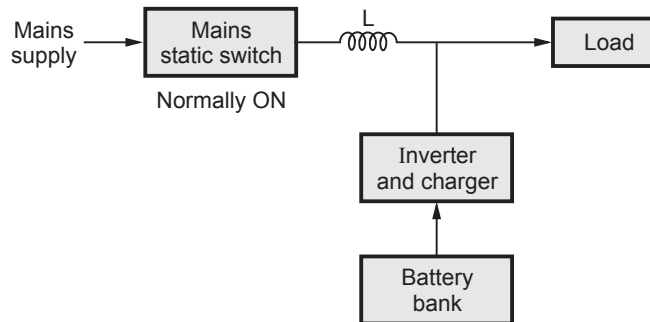

Fig. 6.10.5 Block diagram of line interactive UPS
- Fig. 6.10.5 shows the block diagram of line interactive UPS system.